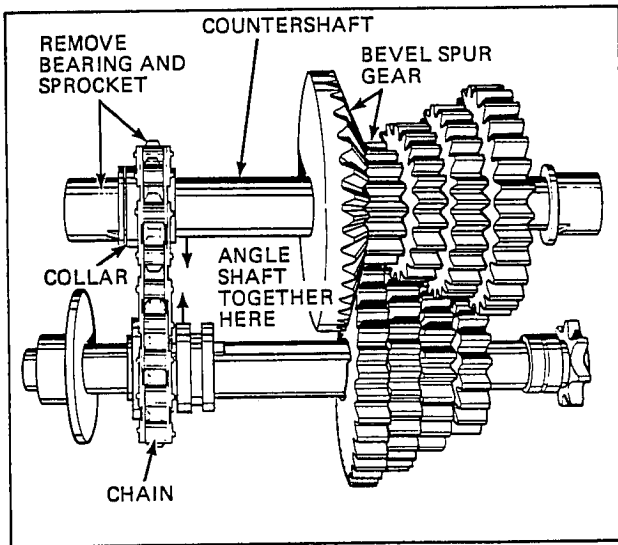
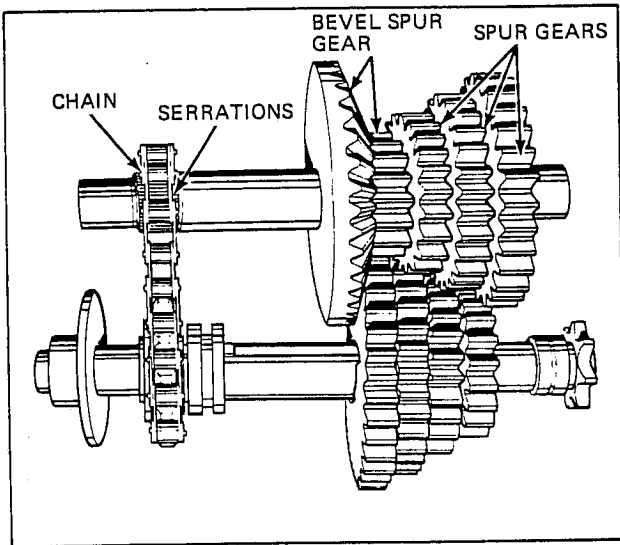

Figure 2-22
Figure 2-23
6. Angle sprocket ends of shafts towards each other, removing the bearing and sprocket from the countershaft. Figure 2-22. Note the collar on the sprocket faces away from the bevel gear. Remove chain. See Figure 2-23.